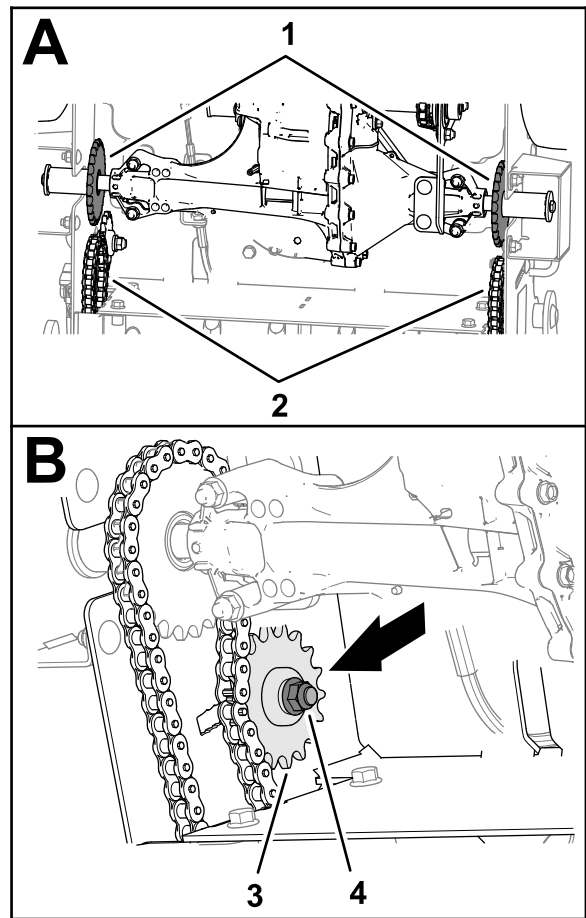

**Figure 65**
- 2. Ensure that the chains are engaged in the rear tine-drive sprockets (Figure 65).